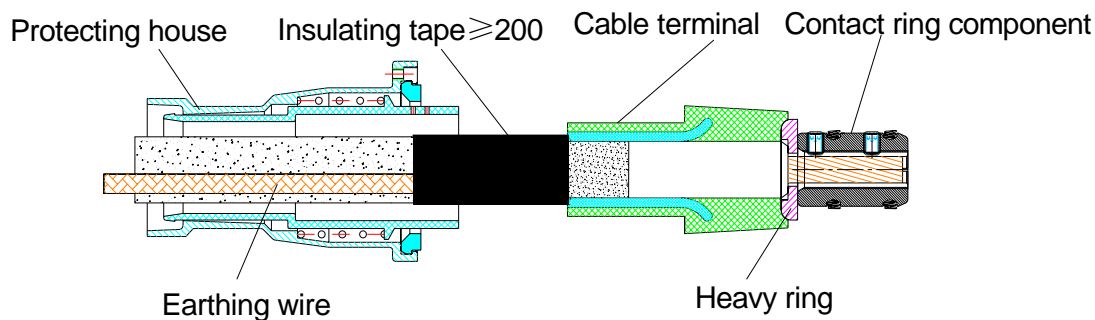

Fig.3
4. 2 Insert the termination on the cable up to the above part of core insulation bevel. (Fig.3)
5.0 (Fig.3) Put the heavy ring and contact ring component on the cable core by sequence.